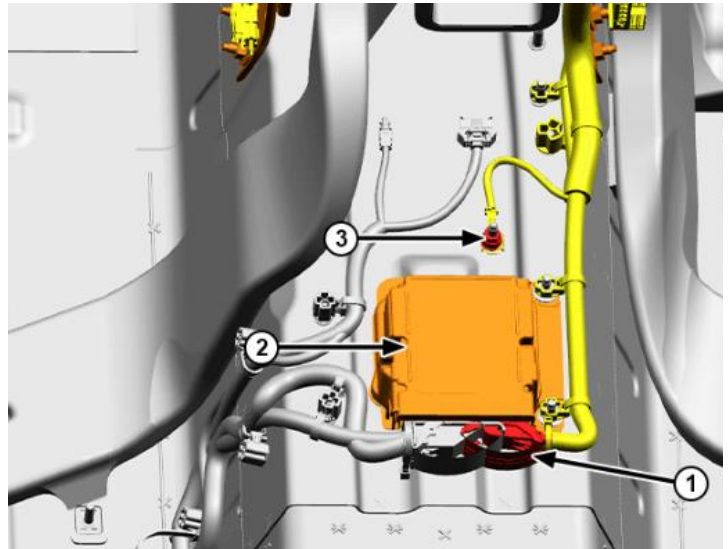

Figure 14 – ORC, Harness and Ground Nut
30. Remove the Occupant Restraint Control (ORC) ground nut (3) (Figure 14).
31. Disconnect the ORC wire harness connector (1) and disengage the connector from the vehicle (Figure 14).
11. Connect the Occupant Restraint Control (ORC) wire harness connector (1) and engage the connector to the vehicle (Figure 14).
12. Install the ORC ground nut (3) and tighten to 12 N·m (9 ft. lbs.) (Figure 14).